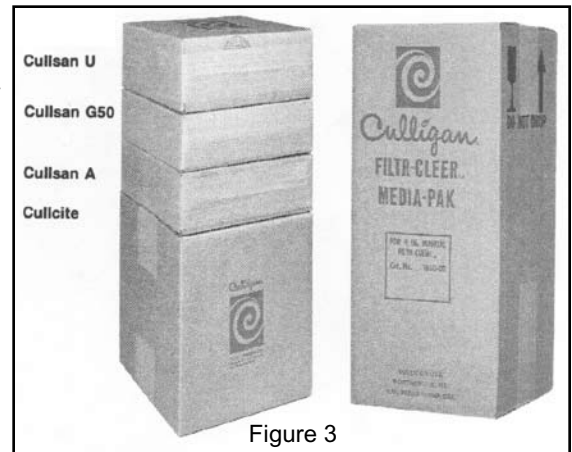

Figure 3
- Open the media pack(s) by cutting along the bottom of the carton and lifting up to expose the four individual media packages (Figure 3).